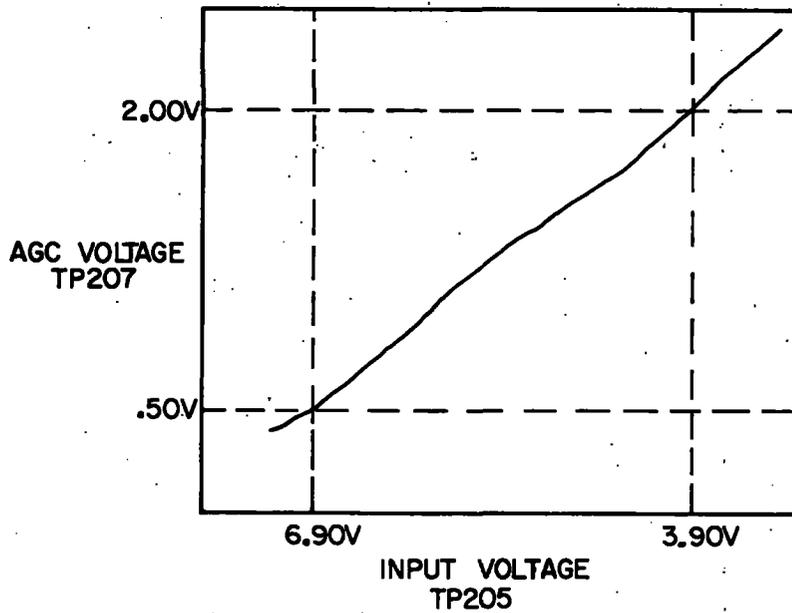

FIGURE 6-26 AGC VOLTAGE
- c. Connect a variable D-C power supply to TP205 through a 1K Ω resistor and compare the input to output voltage relationships with the typical data of Figure 6-26.